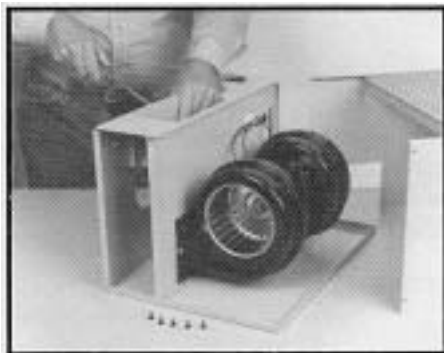

Figure 1-2
3. **Install the steam hose** and nozzle assembly into the fan unit, using the self-tapping pan head screw that is provided. (See Figure 1-2)
4. **Install the steam hose** and nozzle assembly into the fan unit, using the self-tapping pan head screw that is provided. (See Figure 1-2)